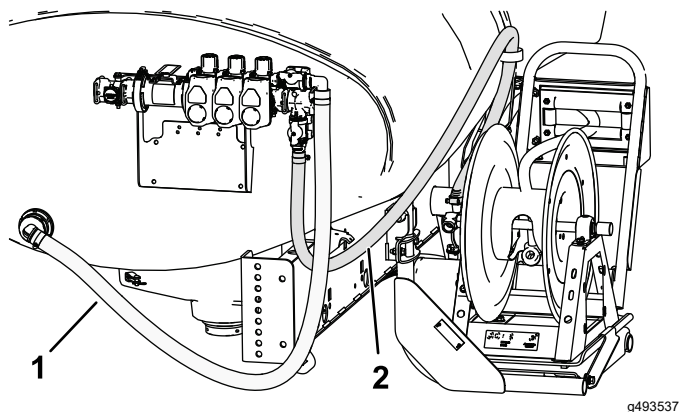

Figure 33
18. Route the hose-reel supply hose as shown in Figure 33 and attach it to the hose reel with a hose clamp.